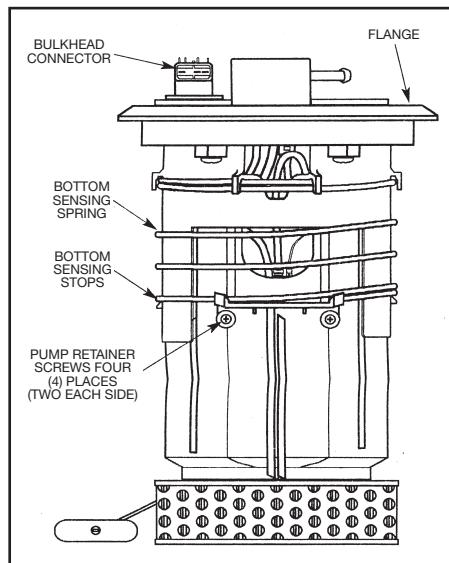

Fig. 1
1. Disconnect the fuel pump electrical plug from the bottom side of the bulkhead connector on the inside of the tank unit. Depress the lock release and slide the connector down off of the connector (See Fig. 1).
2. Disconnect fuel pump outlet hose on the bottom of the tank unit flange (See Fig. 1).
3. Compress the bottom sensing spring toward the top of the tank unit. This will allow room to remove the flange assembly. Carefully pry the two (2) flange slide tracks over the bottom sensing stops and slide the flange assembly off of the lower portion of the tank unit (See Fig. 1).
4. Remove the four (4) retainer screws from the lower portion of the tank unit (See Fig. 1).
5. Remove two (2) electrical wires from the fuel pump.
8. Remove the outer filter from the bottom of the tank unit by bending the two (2) metal locking tabs off of the plastic lock fingers. Carefully pry the filter off of the tank unit.
13. Reconnect the electrical connector to the bulkhead connector on the bottom side of the flange (See Fig. 1).